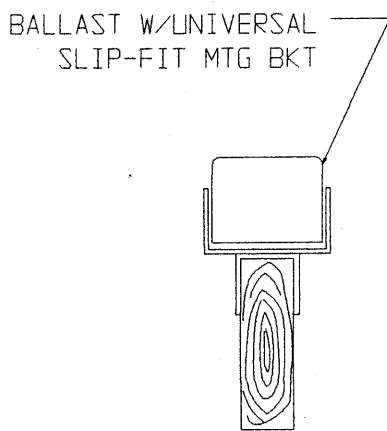
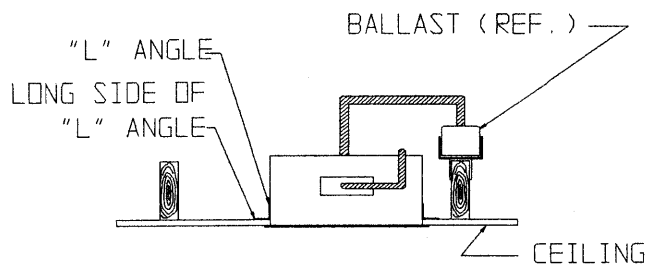

FIG. 1
FIG. 2
3. Place ballast with universal slip-fit mounting brackets on nearest ceiling joist, wood or iron. Ballast should be mounted 12" from fixture. (See fig. 1.)
4. Remove fixture top by removing (1) ¼ turn fastener and pull out by holding onto reflector.
6. Install (4) "L" angles containing screws, working from inside of fixture. Insert long side of "L" angle through crossed slots. Allow "L" angle to drop and use tab to push down. While holding with thumb, sandwich ceiling material and tighten screw. **KEEP FIXTURE FLUSH WITH FINISHED CEILING.** (See fig. 2)